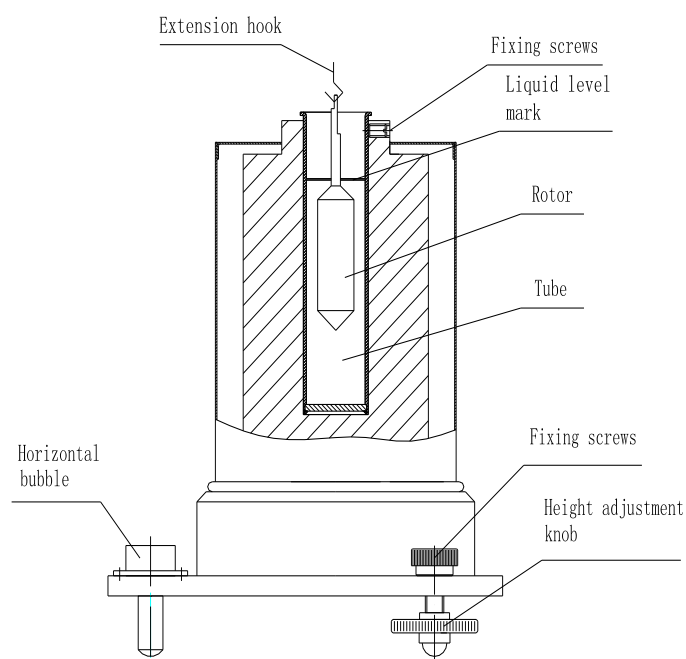

Fig. 16
(6) After the rotor is inserted into the sample, check if the liquid level is suitable (see details in Fig. 16), and the liquid level can be regulated by the elevating knob.
(7) Take the sample tube out from the heater chamber with a special handle after testing, and avoid burning injury.